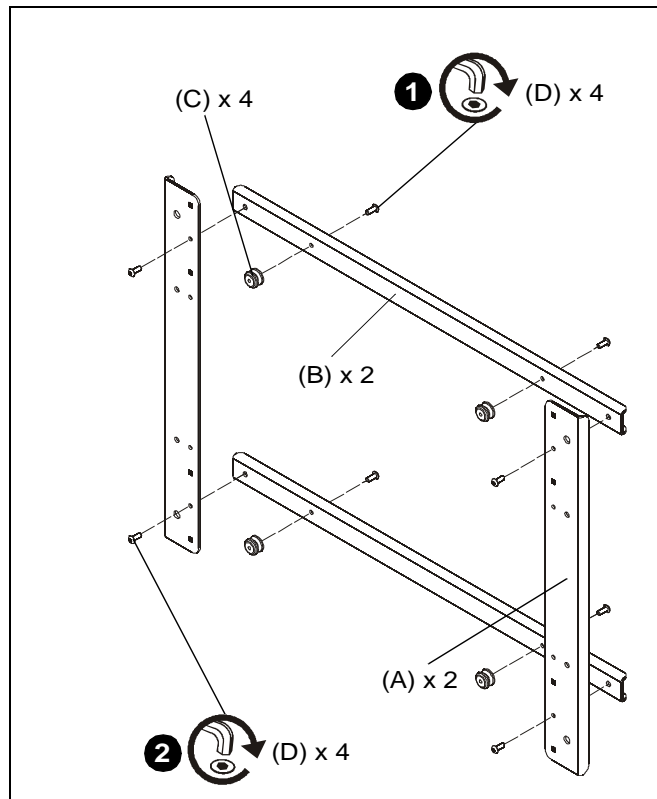

Figure 1
1. Use four #10-24 x 1/2" button head cap screws (D) to secure four mounting buttons (C) to two interface center brackets (B). (See Figure 1)
2. Use four #10-24 x 1/2" button head cap screws (D) to secure two interface side brackets (A) to interface center brackets (B). (See Figure 1)